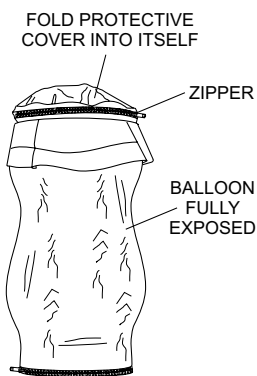

Figure 9. Folding Balloon Cover
8. Fold the balloon cover into itself and zip it up. See Figure 9.